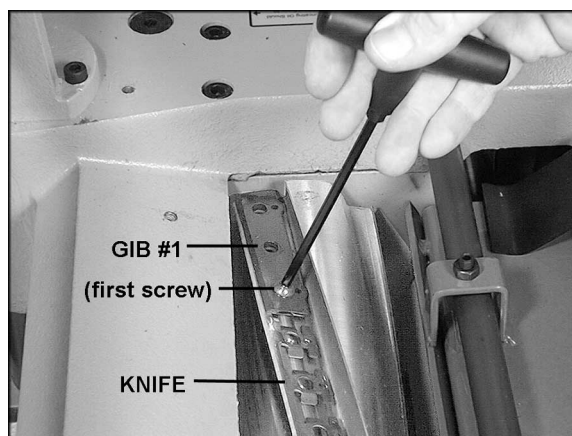

Figure 18 – Model 15S only
3. Remove the gib screws with the T-handle hex wrench, as shown in Figure 18, and remove each gib one at a time.
6. **IMPORTANT:** As you proceed with knife installation, make sure the wings on both ends of each hole (see Figure 18) are completely inserted into the groove in the cutterhead. Failure to do this may result in knife breakage during operation.